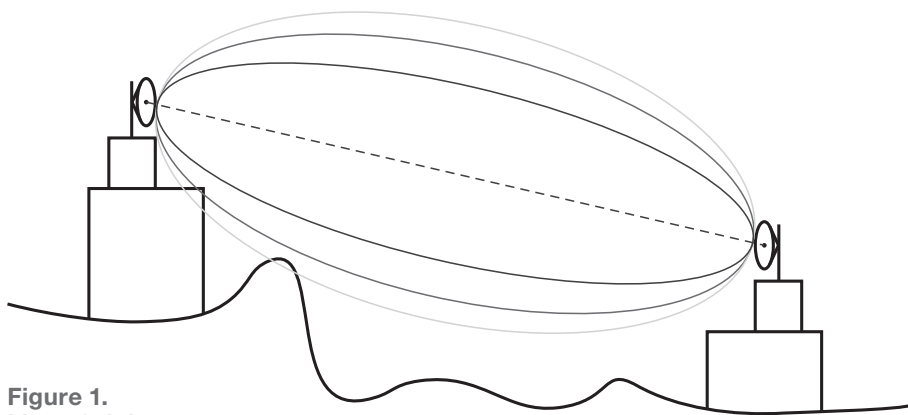

Figure 1.
- Given the nature of radio wave transmission, the longer the distance between links, the greater the vertical clearance required, as depicted in the Figure 1.